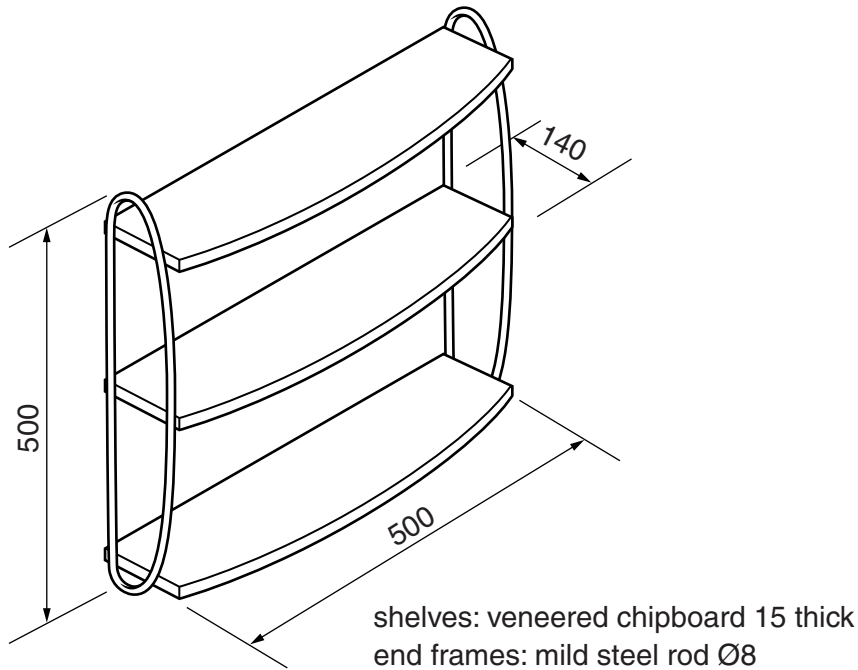

Fig. 10
12 Fig. 10 shows a wall-mounted shelf unit.
- (e) Give **one** reason why each of the materials used to make the wall-mounted shelf unit shown in Fig. 10 could be considered to be environmentally friendly.